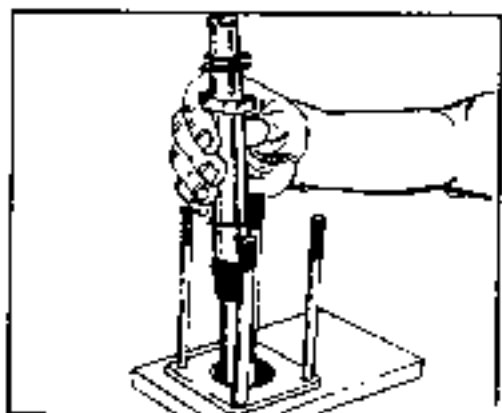

FIGURE 36.
remove input shaft/wheel tube 44. Remove the input shaft/wheel tube (33) assembly sliding it out of the upper cover end of the assembly. See figure 36.